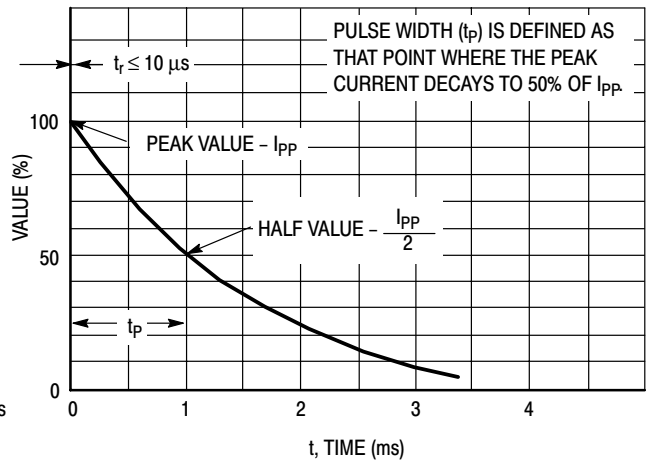
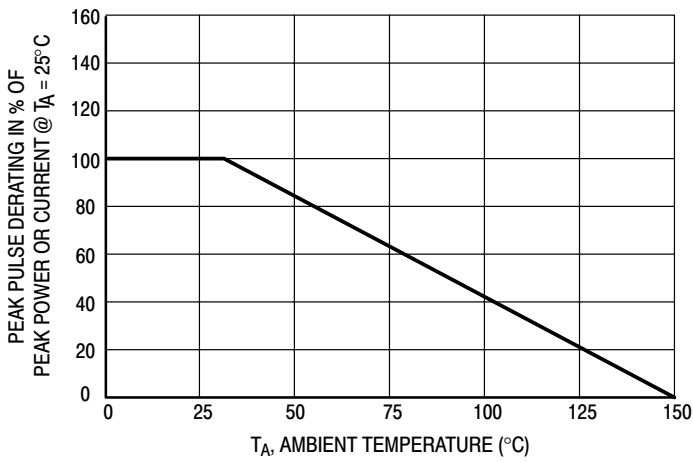

Figure 2. Pulse Waveform
Figure 3. Pulse Derating Curve
7. Surge current waveform per Figure 2 and derate per Figure 3 of the General Data – 600 W at the beginning of this group.